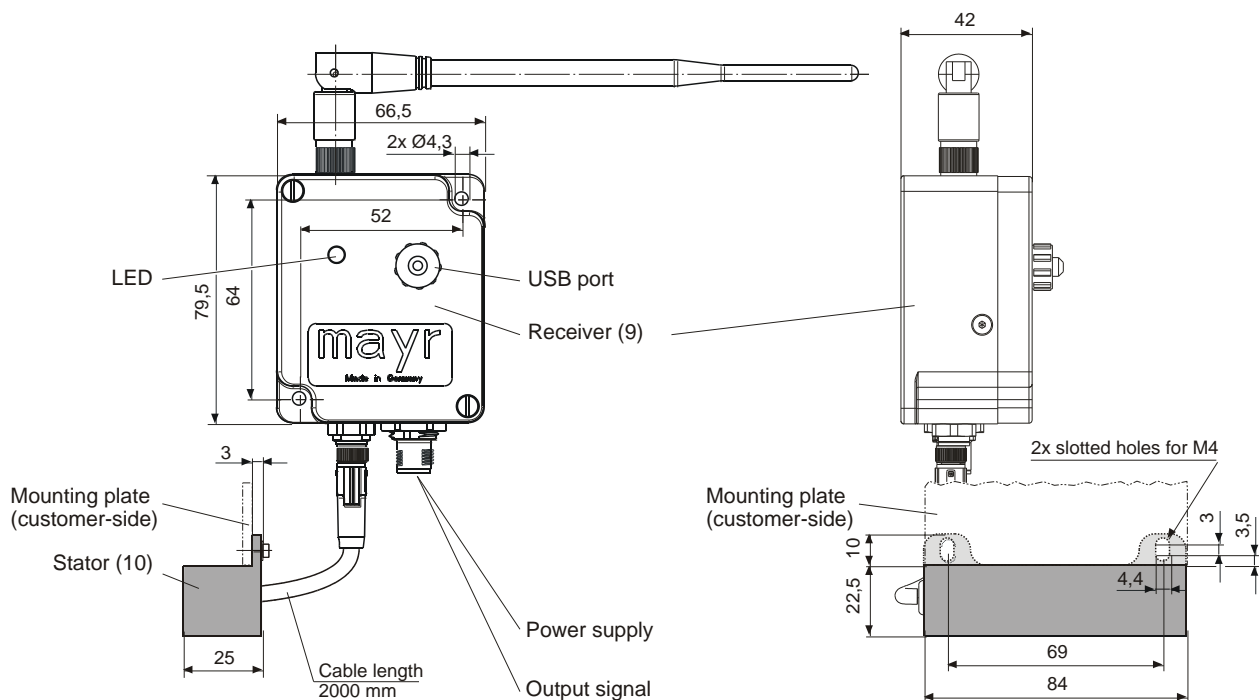

Fig. 8
The user is responsible for providing a mounting plate for mounting the ROBA®-DSM stator (10); for mounting dimensions, see Fig. 8. The stator (10) must be mounted in such a way, that the plastic surface lies tangentially to the strain sensor (4).
The ROBA®-DSM receiver (9) must be placed within a radius of 1 m to the strain sensor (4); for hole pattern dimensions, please see Fig. 8.